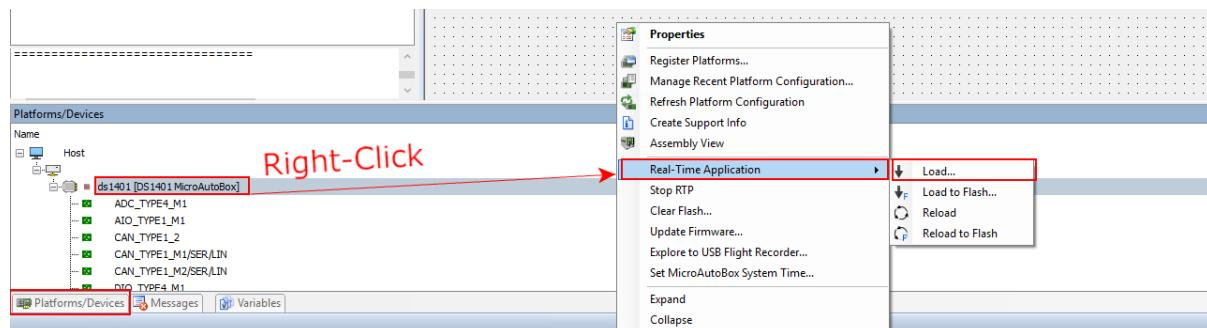
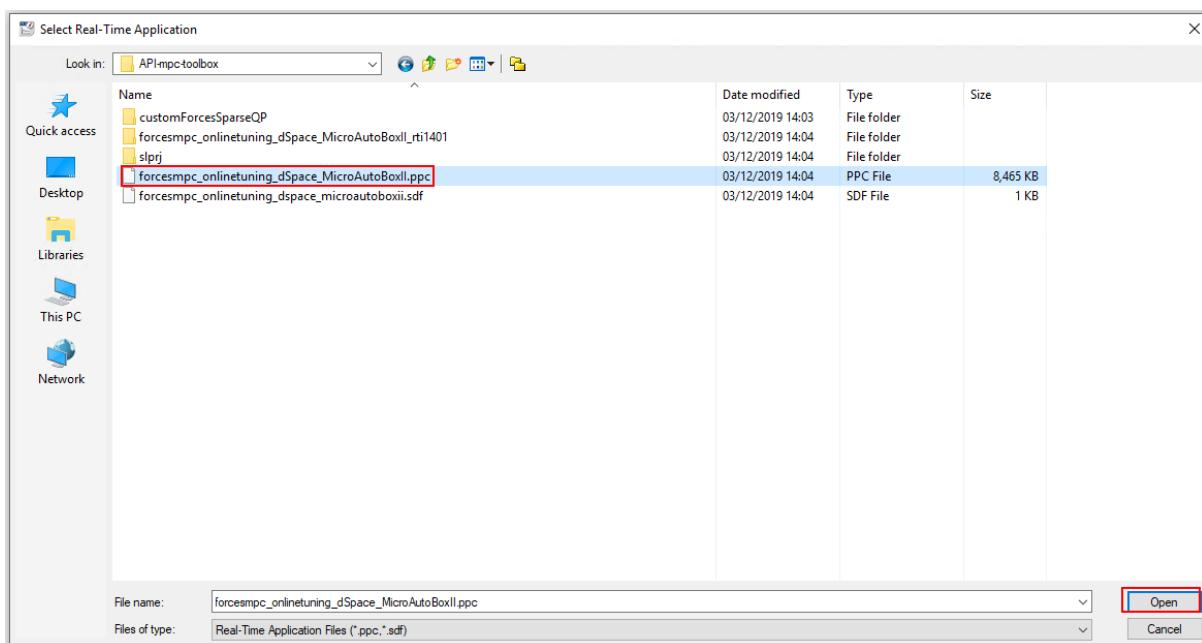

Figure 6.19: Load the application on the dSPACE MicroAutoBox II
Figure 6.20: Select the executable to run the experiment
- 15) Select the Platforms/Devices tab. Right-Click on your platform and select Real-Time Application> Load. Choose the executable file `forcesmpc_onlinetuning_dSpace_MicroAutoBoxII.ppc` (see Figure 6.19 and Figure 6.20).